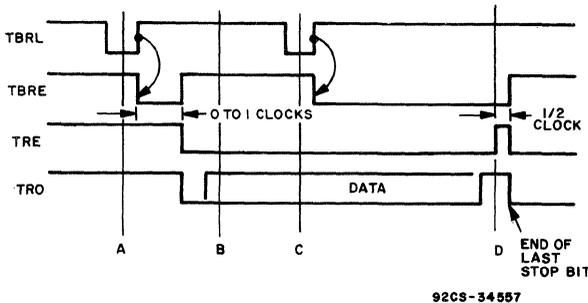

Fig. 3 - Transmitter timing waveforms.
Transmitter timing is shown in Fig. 3. (A) Data is loaded into the transmitter buffer register from the inputs TBR1 through TBR8 by a logic low on the TBRL input. Valid data must be present at least t_{DT} prior to, and t_{DD} following, the rising edge of TBRL. If words less than 8 bits are used, only the least significant bits are used. The character is right justified into the least significant bit, TBR1. (B) The rising edge of TBRL clears TBRE. Zero to 1 clock cycles later data is transferred to the transmitter register and TRE is cleared and transmission starts. TBREmpty is reset to a logic high. Output data is clocked by TRC. The clock rate is 16 times the data rate. (C) A second pulse on TBRL loads data into the transmitter buffer register. Data transfer to the transmitter register is delayed until transmission of the current character is complete. (D) Data is automatically transferred to the transmitter register and transmission of that character begins.